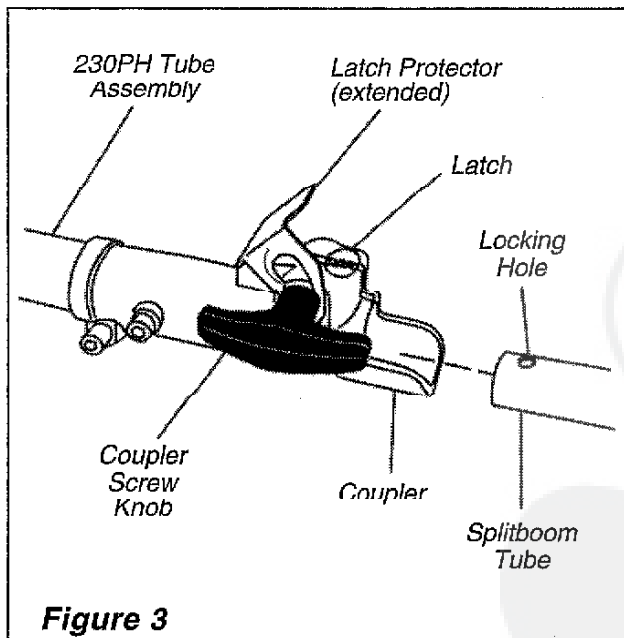

Figure 3
1. Place the 230PH Multipurpose Engine and the Splitboom on a clean, flat surface so that both assemblies fit end to end. The 230PH assembly should be facing up, and the Splitboom should be positioned with the locking hole in the tube end facing up. See Figure 3.
3. Insert the tube of Splitboom into the coupler, with the tool decal facing up, until the line of the decal is flush with the end of the coupler. Twist the tool back and forth until you are sure it snaps in place by the coupler latch. See Figure 3.